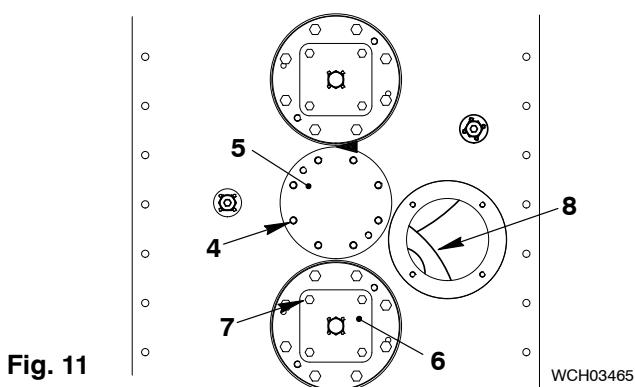

Fig. 11
- 1) Remove the eight screws (4, Fig. 11) and the cover (5).